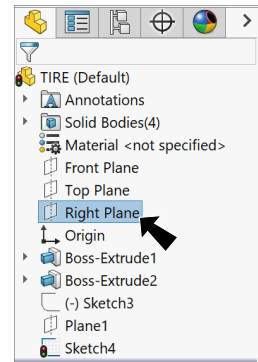

Fig. 29
Step 13. Click **Right Plane**  in the Feature Manager to select plane, **Fig. 29.**